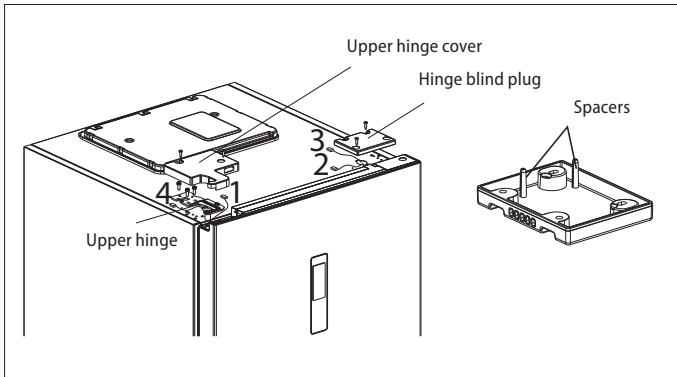

Fig.7
14. Connect the refrigerator upper signal line [4] to the door body signal line [1] and the signal line [2] to the signal line [3] and install the upper plastic covers (Fig. 7).
15. Shorten the spacers on the hinge blind plug and fit the cover as shown in Fig. 7.